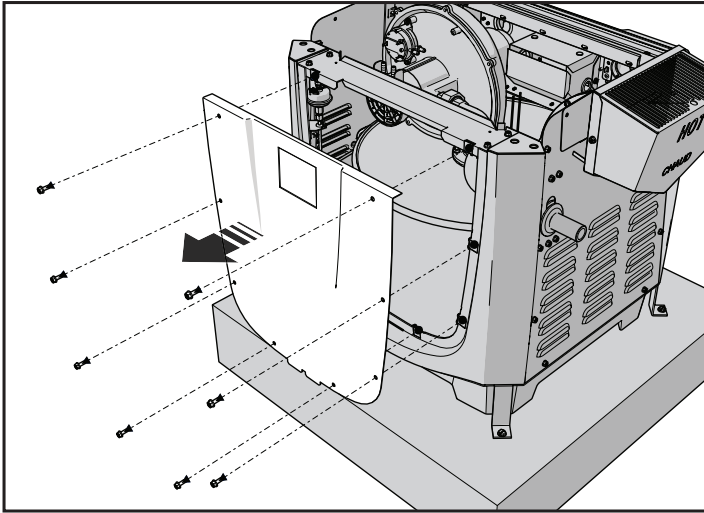

Figure 37. Remove Rear Panel
9. Remove eight (8) screws to take off heater rear panel (Figure 37).